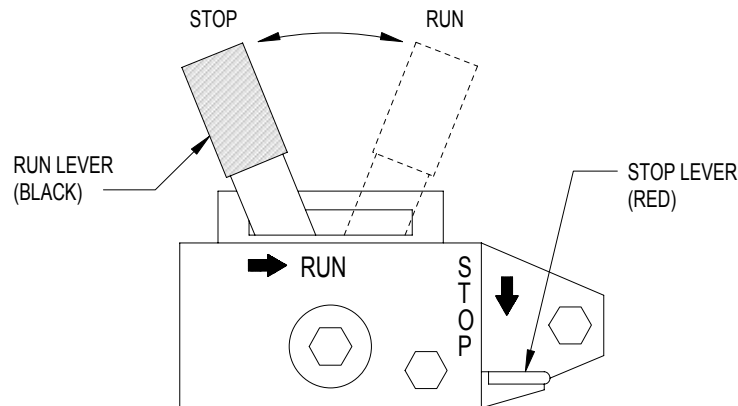

Figure 2-6. Engine RUN and STOP Controls
- (7) Pull recoil starter (1) slowly. Stop when it feels tight.
- (8) Depress decompression lever "A" (3).
- (9) Move engine RUN lever (4) to RUN position (Figure 2-6).
- (8) Move the engine RUN lever (4) to RUN position (Figure 2-6).
- (7) Move engine RUN lever (4) to RUN position (Figure 2-6).
- (7) Move the engine RUN lever (4) to the RUN position (Figure 2-6).